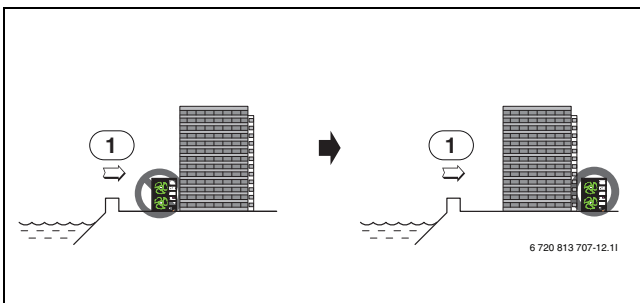

Fig. 13
- ▶ Install the outdoor unit on the opposite side of the sea wind direction (→ fig. 13).